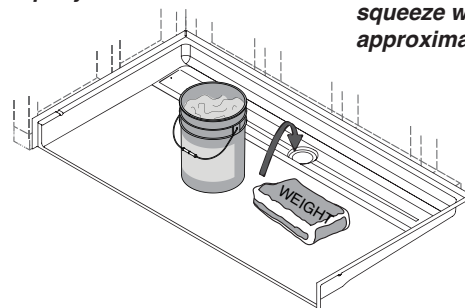

Figure 8
- 7 PLACE 50 POUNDS OF WEIGHT** on top of the drain, as shown in Figure 8 to ensure the pan is making contact with the epoxy.